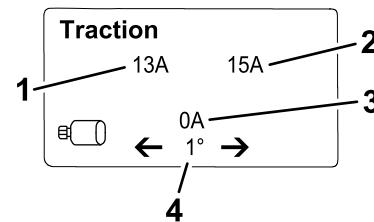

Figure 21
- Traction information screen  (Figure 21):** shows the current steering angle and the amperage allotted to each traction motor.